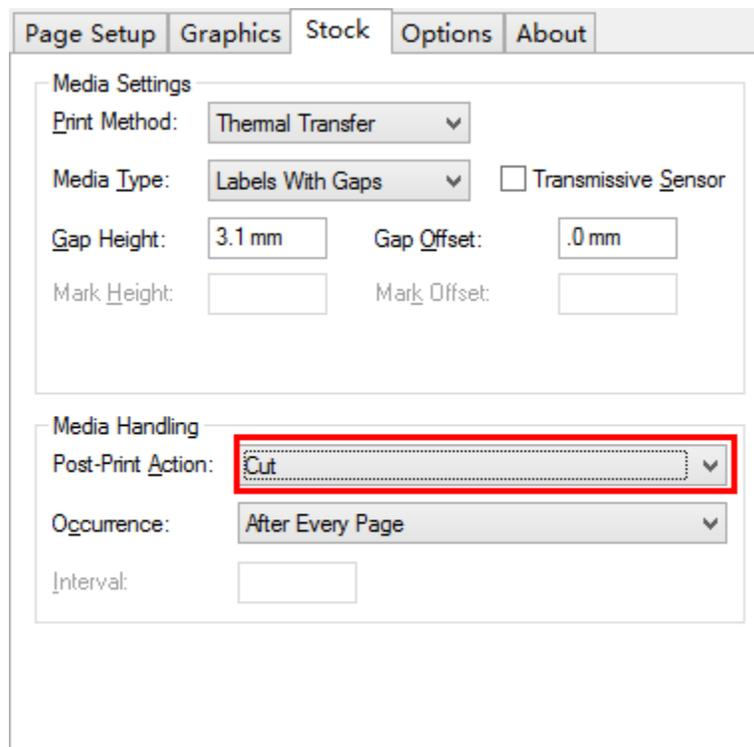

Figure 6-5
1. Enable the cutter function in the printer's driver (see Figure 6-5).